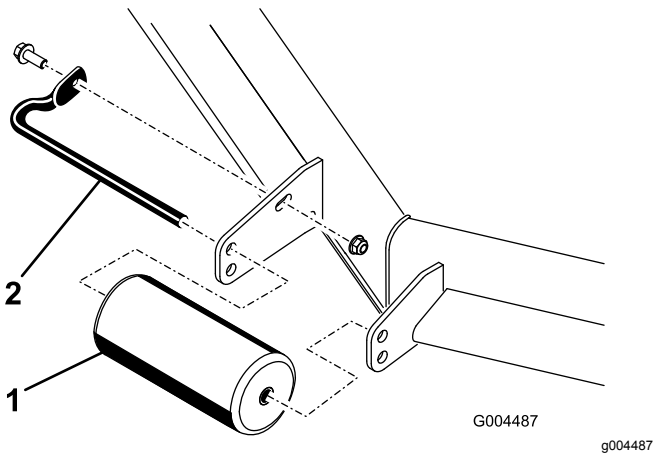

Figure 10
- A. Remove the screw and nut securing the roller shaft to the cutting unit bracket (Figure 10).